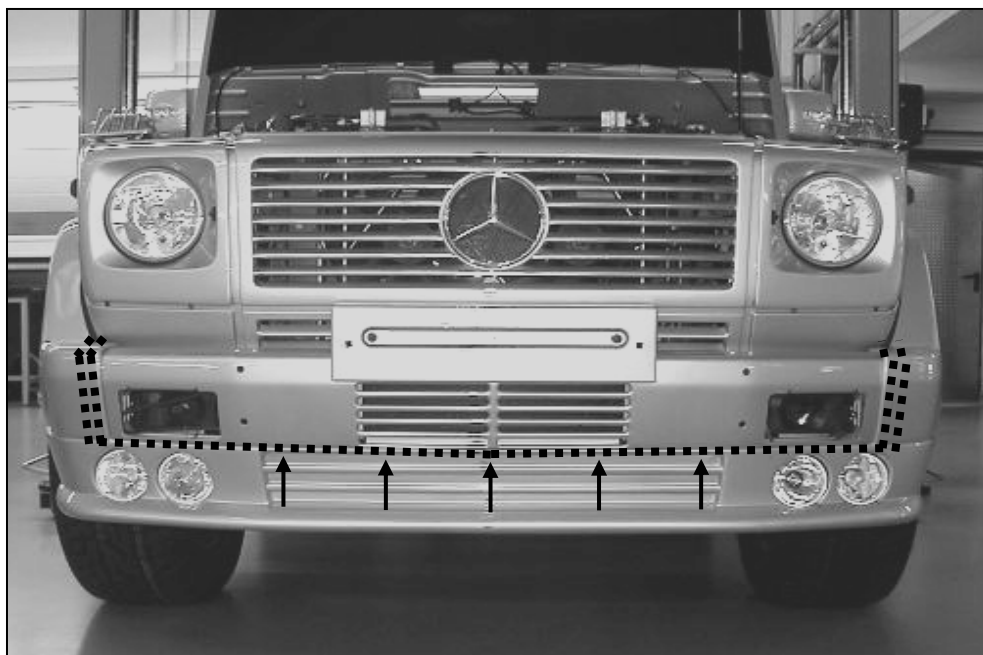

Fig. 5
- Apply the enclosed glue evenly on the contact areas (fig. 5, markings) between the Brabus front spoiler and the standard shock absorber.
(Fig 5, arrows)